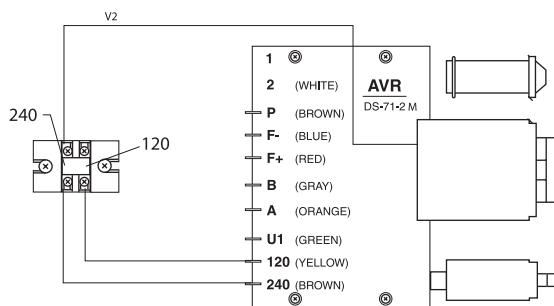

Figure 22: Control Terminal Board, 240 Volt Output
- a. 240 volt output can be selected by connecting the terminals of the control terminal board to 240 (Figure 22).